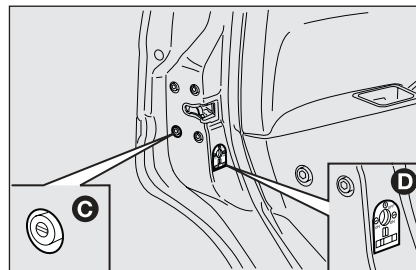

fig. 21
- cut-in of door lock device **C-fig. 21** when the electric system is failing (e.g. run-down battery);
- cut-in of child lock safety device **D-fig. 21** on rear doors.